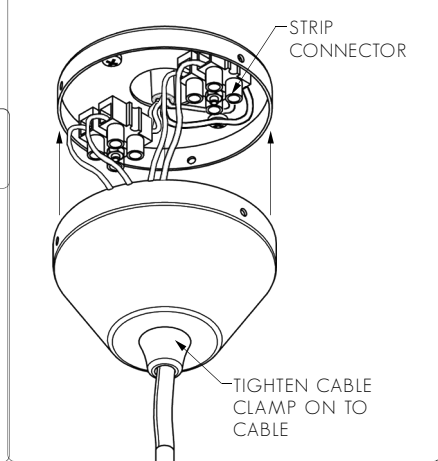

FIG. 4 - FASTEN CABLE USING CORD GRIP
1. FEED LED STRIP TAILS (OR CABLE) THROUGH HOLE IN EXTRUSION AND CLAMP USING CORD GRIP SUPPLIED. (SEE FIG. 4). DO NOT INSTALL LED STRIP AT THIS POINT.